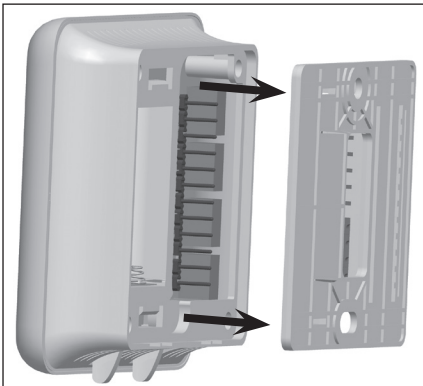

Figure 5.
1. Remove the mounting plate by pulling it straight off the back of the Thermostat. Figure 5.